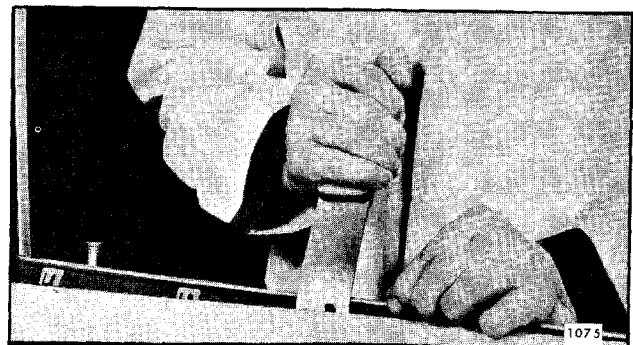

Fig. 7-81—Glass Run Channel Inner - Outer Strip Assembly Removal - "A-X & Z" Styles
4. Insert a flat blade tool (slotted to fit over tang of clip) between door panel return flange and strip assembly at clip locations (Fig. 7-81). Carefully pry clips from slots in panel and remove strip assembly.